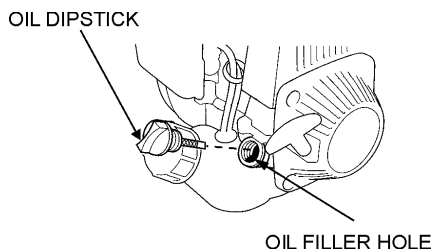

Figure 10. Engine Oil Dipstick/Oil Filler Hole
3. Check the engine oil level by unscrewing the engine oil dip stick (Figure 10) from its holder.